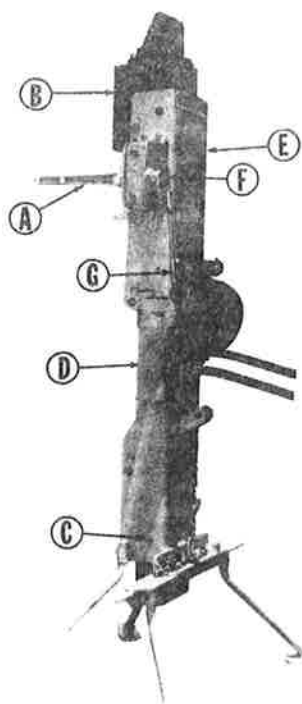
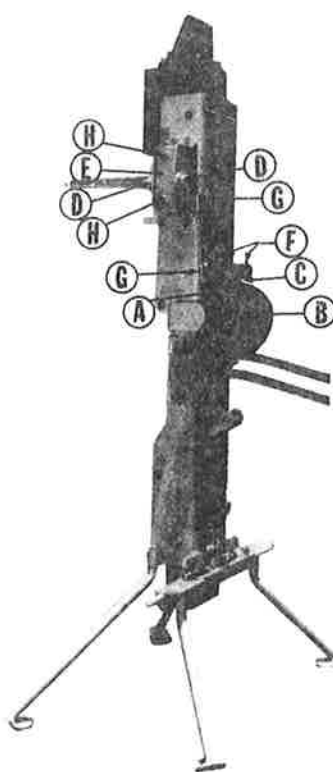

Figure 1.
Figure 2.
Lubricate bearings at each end of friction wheel shaft (B), Figure 2. Lubricate friction wheel cradle cam (C), Figure 2.
Both bearings on control handle shaft (D), Figure 2;
brake release plate (E), Figure 2;
cradle camshaft bearings (F), Figure 2.
Apply 1 or 2 drops of SAE 30 or 40 oil to ball joints (G), Figure 2, on drive control rod and to studs (H), Figure 2, passing through control housing to brake release plate.
Under ordinary conditions, there are only three parts, the two brake blocks (E) & (F), Figure 1, and the friction wheel (A), Figure 2, which will show any appreciable wear and require adjustment.
When brakes are applied, the brake blocks should hold drive channel (B), Figure 1, in the center or slightly to left of center of guide channel (D), Figure 1 (as viewed by operator). This is controlled by adding or removing shims from under stationary brake block (E), Figure 1. The Driver is shipped with one thick and two thin shims at both top and bottom of stationary brake block. These shims may be used in any combination as long as the total thickness at top and bottom is equal. When adjustment of the stationary brake block has been changed, it may be necessary to change the adjustment of the brake release plate (E), Figure 2. Adjustment of this plate is controlled by the lock nuts at top and bottom. They should be adjusted so that control handle (A), Figure 1, has 1 to 2 inches free movement at its outer end.
When the control handle (A), Figure 1, is in "Hold" position and edges of the drive channel (B), Figure 1, are out against guide bearings, there should be from 1/16 to 1/8 inch of space between friction wheel (A), Figure 2, and back of drive channel. A piece of No. 14 gage wire may be used as a feeler gage and should just slide between friction wheel and drive channel. This spacing can be obtained by removing or adding shims alternately above and below the friction wheel.
If for some reason the Driver is ever found to be completely out of adjustment, the following procedure can be used to put it in operating condition again. Remove transport pin (C), Figure 1, and drop drive channel (B), Figure 1, onto a wooden block placed on ground. Disconnect ball joint at lower end of control rod (G), Figure 1, from lever on cradle camshaft. Adjust brakes (E) & (F), Figure 1, and friction wheel (A), Figure 2, setting as outlined above. Before checking friction wheel spacing, be sure that cradle cam is released and friction wheel is out as far from drive channel as cradle cam will allow. Adjust length of control rod until lower ball joint stud slips freely into hole in cradle camshaft lever. Secure with nut and lockwasher and test operation of Driver. If it seems desirable to have more control handle movement between the point where the brakes release and the friction wheel engages, this may be obtained by lengthening control rod slightly from the setting obtained above. Or, if slightly less control handle movement is desired, this may be obtained by shortening control rod.
Support drive channel (B), Figure 1, with a suitable hoist and remove transport pin (C), Figure 1.
Position control handle (A), Figure 1, in the "LOWER" position and raise drive channel (B), Figure 1, from guide channel (D), Figure 1. Invert the drive channel and reinsert it in the guide channel.
Insert transport pin (C), Figure 1, through the top holes in the guide channel and secure with klik-pin provided.
WHEN ATTACHING A DEMOLITION HEAD GROUP NO. 2298 OR AN AUXILIARY WEIGHT GROUP NO. 2781 TO A POST DRIVER EQUIPPED WITH A DRIVER WEIGHT GUARD KIT NO. 3191, BE SURE TO PLACE TWO NO. 4120, 5/8 WASHER-SHIMS BETWEEN THE DEMOLITION HEAD OR AUXILIARY WEIGHT AND DRIVER WEIGHT OR THE TWO REAR BOLTS. (THIS IS ILLUSTRATED BY FIGURE 1 ABOVE.) YOU MUST USE FOUR BOLTS SUPPLIED IN EACH KIT WHEN MOUNTING THE DEMOLITION HEAD OR AUXILIARY WEIGHT.